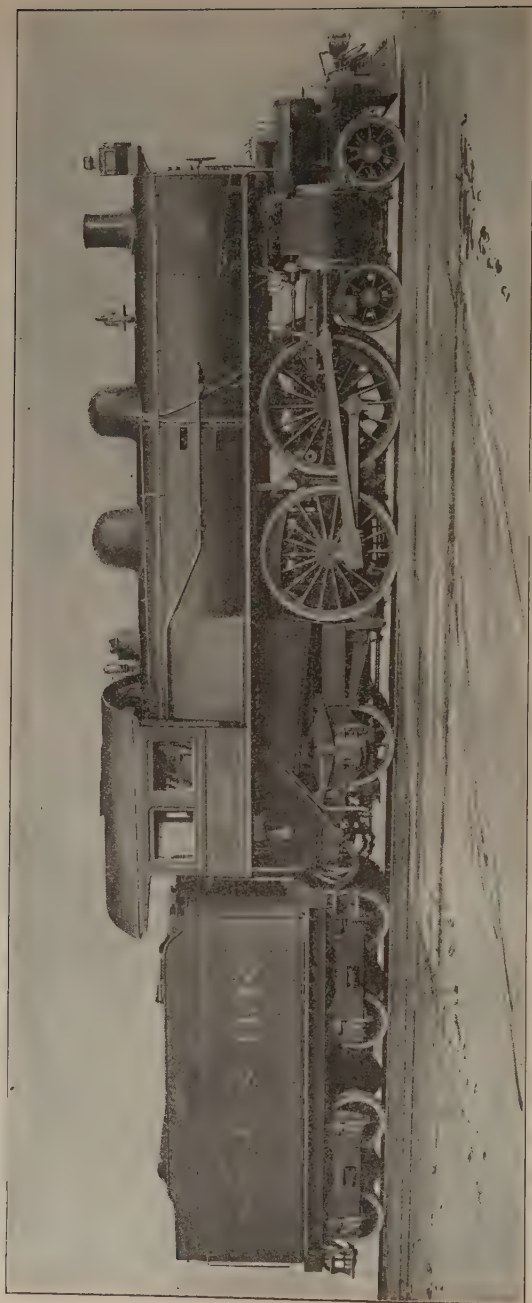

FIG. 36
66. General Arrangement.—The balanced compound designed by Mr. F. J. Cole and built by the American Locomotive Company is shown in Fig. 36. The illustration shows the low-pressure cylinder with its valve chest directly above it; the valve chest for the high-pressure cylinder extends in front with the steam pipe above and connecting with the center of the valve chest. This figure represents the engine as originally built. In the later type, the starting valves and by-pass valves are incorporated in the cylinder saddle as shown in the succeeding illustrations. The high-pressure cylinders are not shown as they are between the frames, their pistons being connected to the forward driving axle by means of cranks in the axle. The low-pressure pistons are connected, in the usual way, to crankpins in the